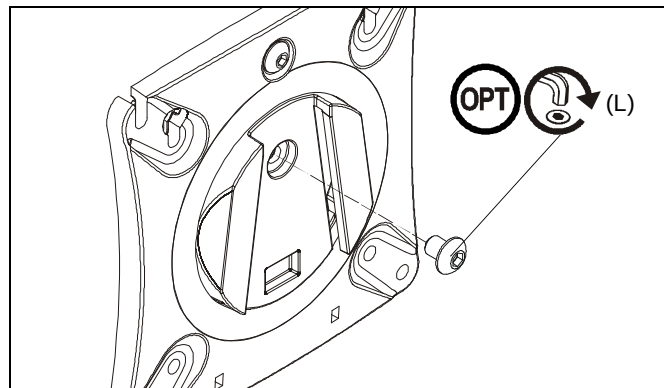

Figure 15
NOTE: (Optional) Rotational adjustment may be locked by installing rotational locking screw (L) into back of faceplate. (See Figure 15)